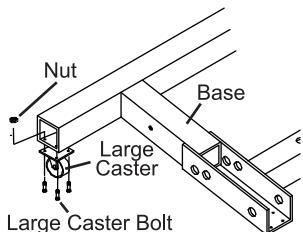

Figure 1
- To attach two Large Casters (17) to the rear section of the Base, align the four mounting holes in each Large Caster with the four mounting holes on the underside of each Base end. Secure in place using four Large Caster Bolts (18) and Nuts (16). See Figure 1.